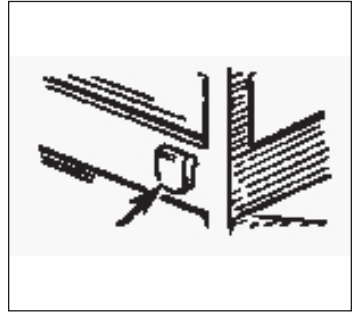

Figure 2. Bend in tab
4. Bend down the two tabs after they have been inserted into the appropriate slots. A tight bend, illustrated in Figure 2 on page 2, will position the deck so that it does not interfere